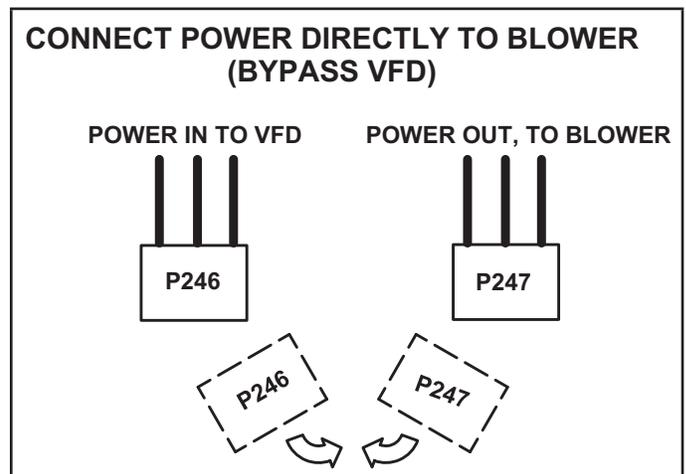

FIGURE 29
- 4 - Connect P246 to P247. See FIGURE 29.